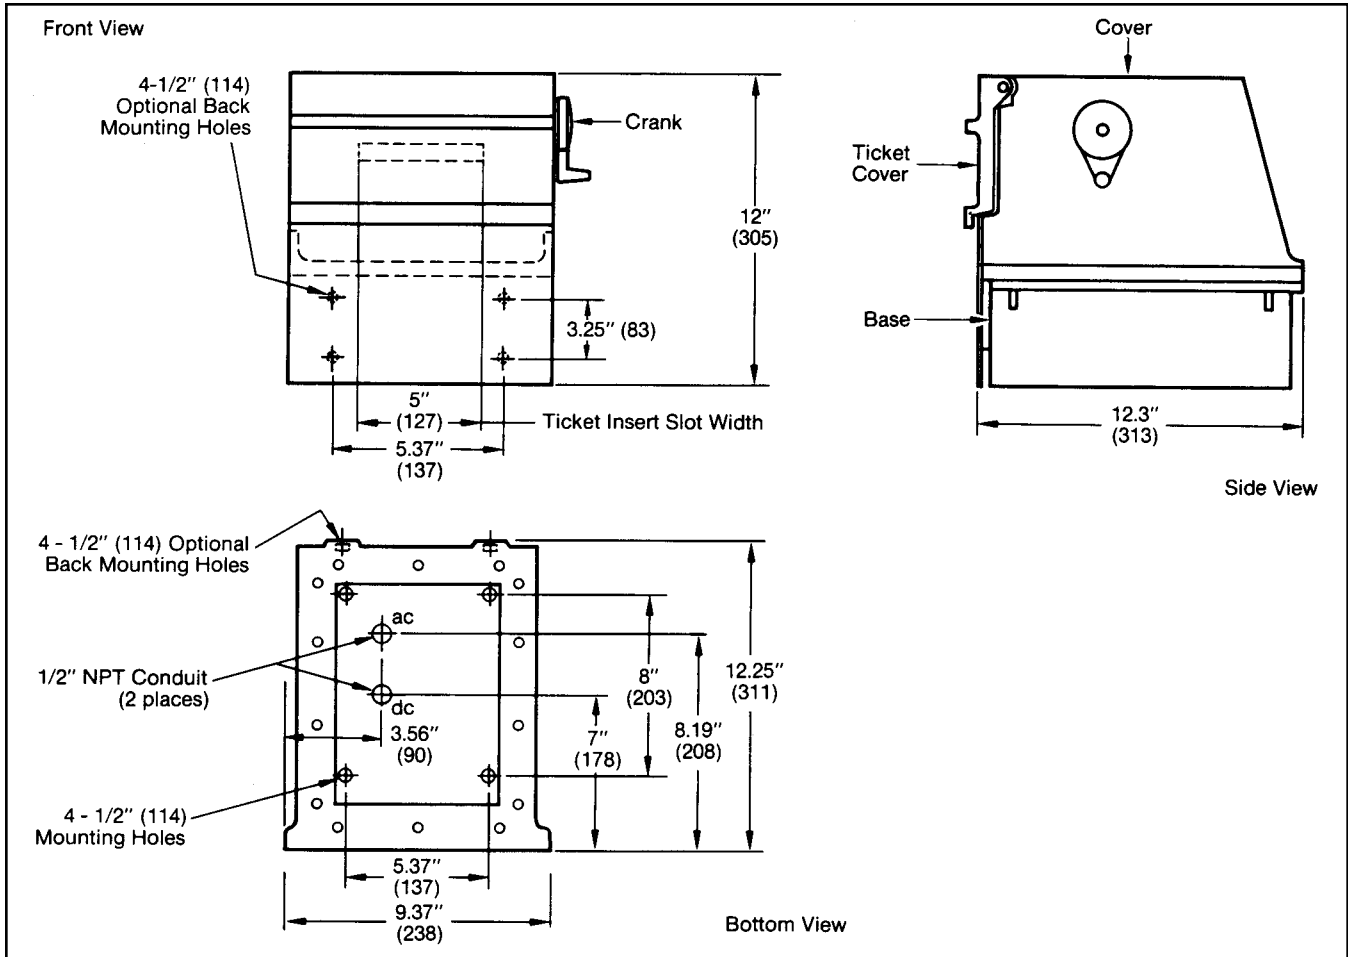

Figure 1 – Load Printer Dimensions
The installation kit provided with each unit includes four (4) mounting bolts (1/2 - 13) with washers. Mounting hole dimensions can be found on Figure 1. The Load Printer may be mounted using the holes located on the bottom or the holes located on the back of the housing.
The Smith Meter Load Printer has two 1/2" NPT openings for conduit connections (Figure 1). The entrance nearest the front is for dc and signal cables only. The entrance nearest the rear is for ac wires only.